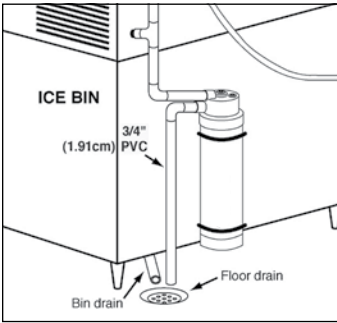

Figure 6.
- Connect a PVC line to the Sump Water Outlet on the Chill ICE (connection #4) using a 90° fitting. Be sure to plumb a vertical line down THEN a horizontal line to the floor drain (Figure 6).